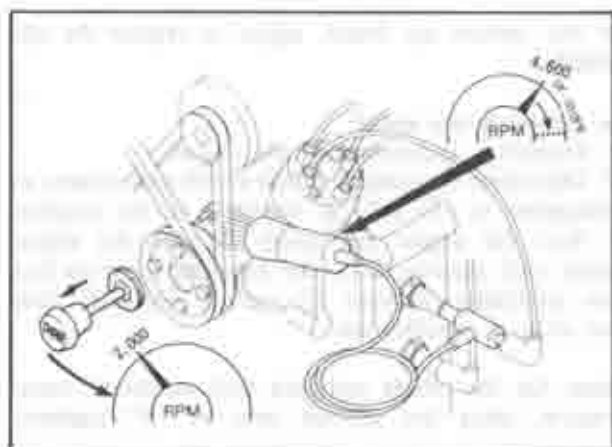

Fig. 1A-10 Checking trailing ignition operation
3. Disconnect the coupler of the water temperature switch and connect a jumper wire to both terminals in the coupler (from control unit) as shown in Fig. 1A-6.